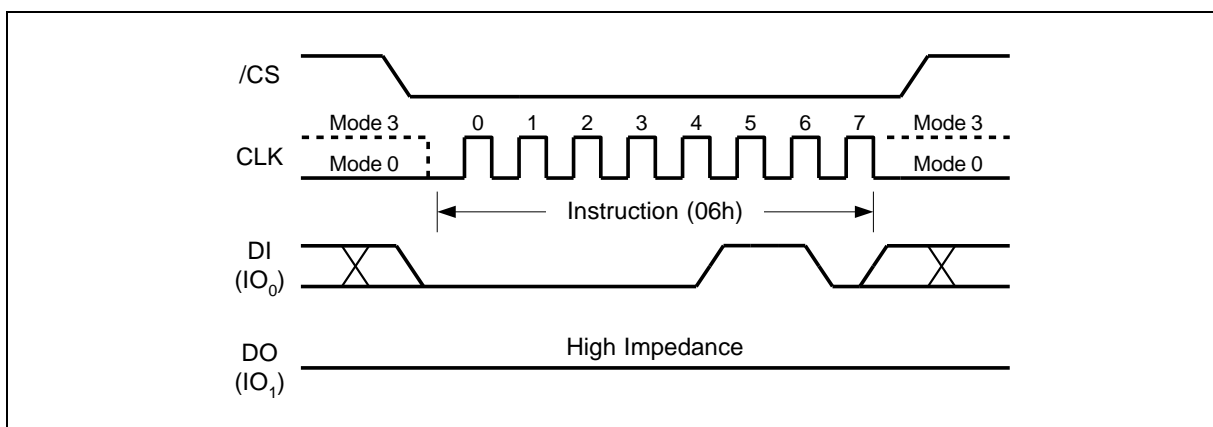

Figure 4. Write Enable Instruction Sequence Diagram
Instructions vary in length from a single byte to several bytes and may be followed by address bytes, data bytes, dummy bytes (don't care), and in some cases, a combination. Instructions are completed with the rising edge of edge /CS. Clock relative timing diagrams for each instruction are included in figures 4 through 25. All read instructions can be completed after any clocked bit. However, all instructions that Write, Program or Erase must complete on a byte boundary (CS driven high after a full 8-bits have been clocked) otherwise the instruction will be terminated. This feature further protects the device from inadvertent writes. Additionally, while the memory is being programmed or erased, or when the Status Register is being written, all instructions except for Read Status Register will be ignored until the program or erase cycle has completed.
The Write Enable instruction (Figure 4) sets the Write Enable Latch (WEL) bit in the Status Register to a 1. The WEL bit must be set prior to every Page Program, Sector Erase, Block Erase, Chip Erase and Write Status Register instruction. The Write Enable instruction is entered by driving /CS low, shifting the instruction code “06h” into the Data Input (DI) pin on the rising edge of CLK, and then driving /CS high.